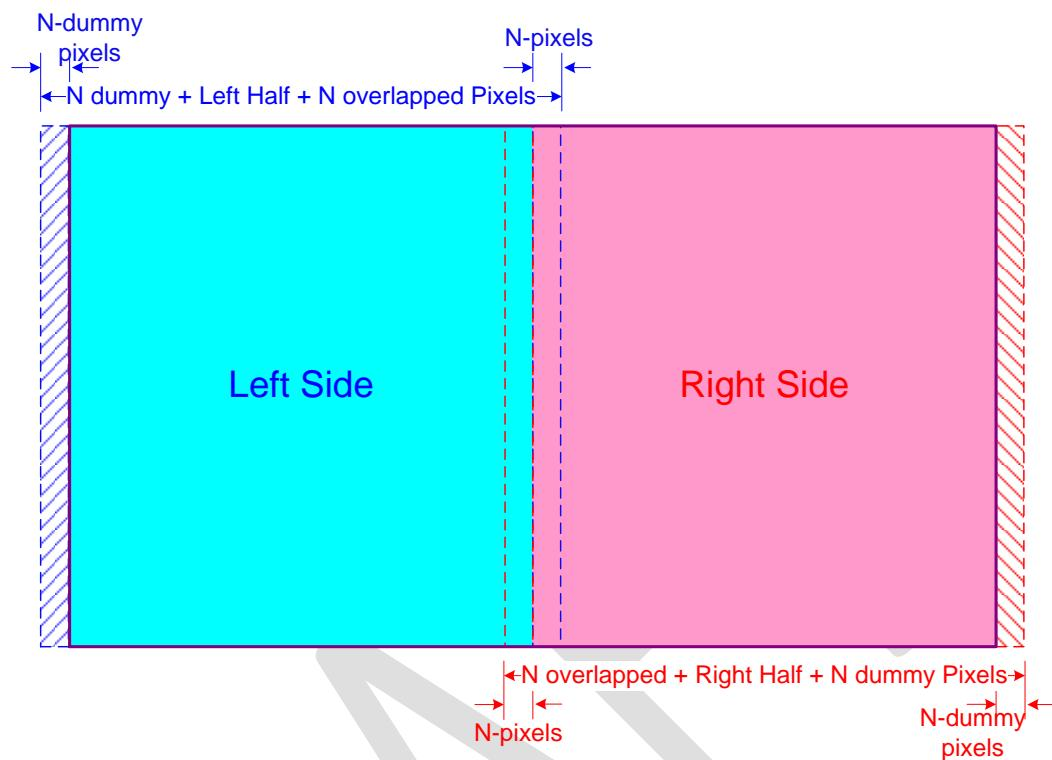

Figure 4-4 Line Overlap Splitting in Dual DSI Link
7. For dual DSI link splitting, overlapped splitting shown in Figure 4-4 is also supported.